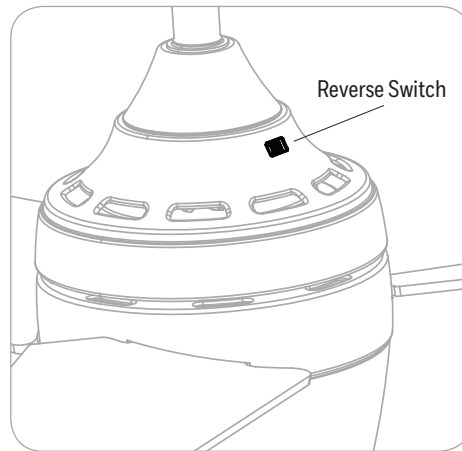

Figure 6.2
2. Use the reverse switch located on the motor assembly to optimize your fan for seasonal performance. **In warmer weather**, push the reverse switch left which results in downward airflow creating a wind chill effect. **In cooler weather**, push the reverse switch right which results in upward airflow that will help move hot air of the ceiling (Figure 6.2).